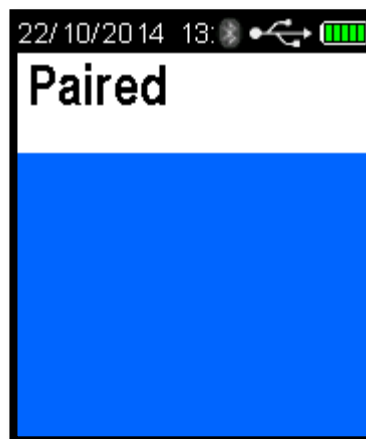

Figure 102 Serial Instrument Paired
- Press the test key to accept the selected serial instrument. The instrument will display the Paired message on successful pairing (Refer Figure 102).